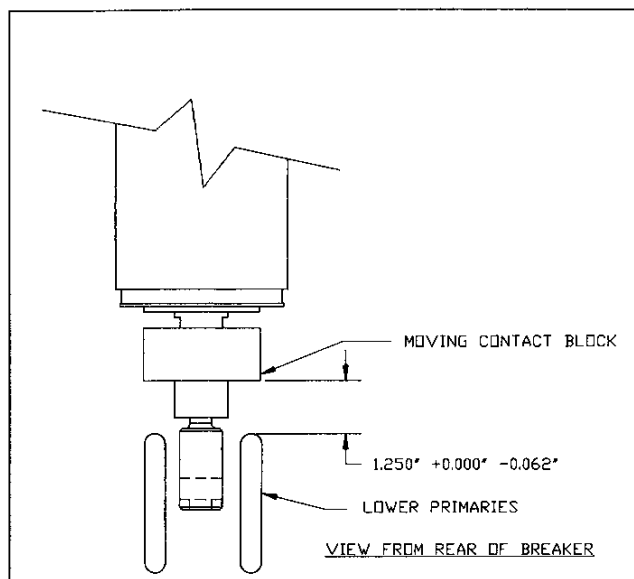

Figure 1. Moving Contact Block Measurements
- With closed contacts on a new vacuum interrupter, the bottom of the moving contact block should be 1.250" + 0.00" - 0.062" above the top of the lower main primary disconnect bars. See Figure 1.